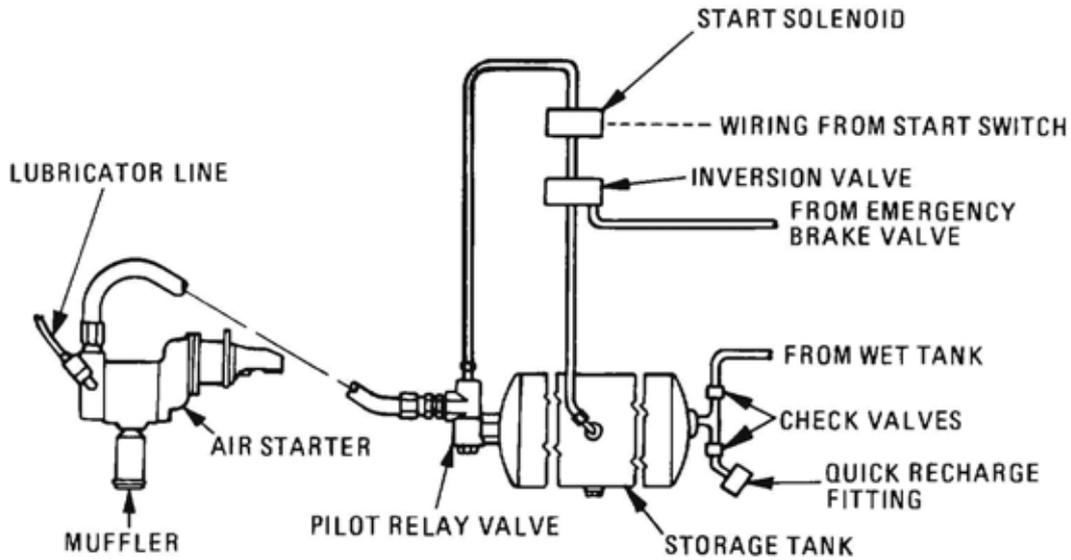

Figure 120 Air Starting System
**169.** To operate the starter motor, the inversion valve and the solenoid valve must both be open to allow signal air to flow to the pilot relay valve. The signal air causes the relay valve to open the main feed line permitting a surge of air to flow directly from the storage tank to the starter motor. This surge of air causes the rotor within the starter motor to spin. In so doing, the inertia created by the spinning rotor forces the drive pinion to mesh with the flywheel causing the crankshaft to rotate. The inversion valve and the solenoid valve are controlled by the parking brake switch and the starter switch (key) respectively. The parking brakes must be applied and the starter switch key turned to the 'start' position to allow the signal air to flow from the storage tank to the pilot relay valve (Figure 120).